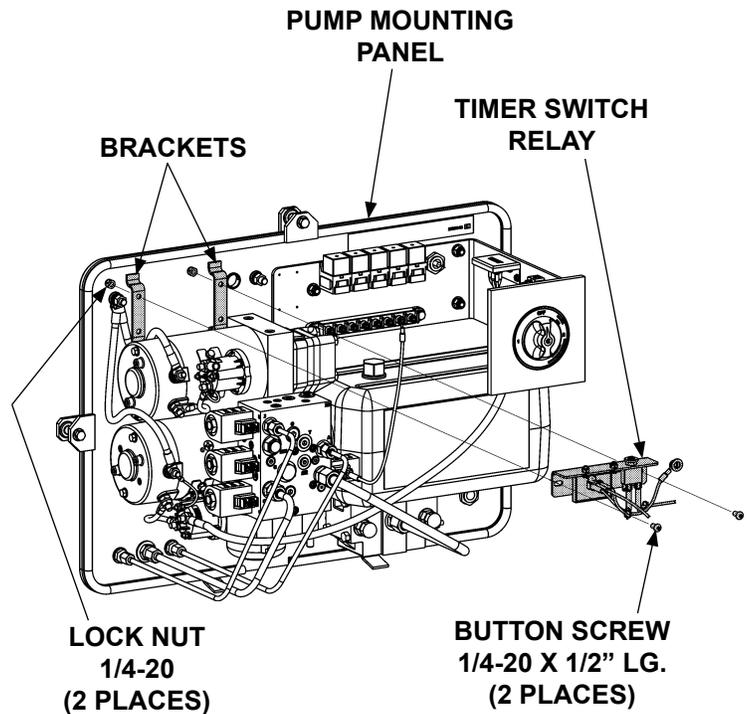

FIG. 3-1
3. Bolt timer switch relay (Kit item) to pump mounting panel as shown in **FIG. 3-1**.